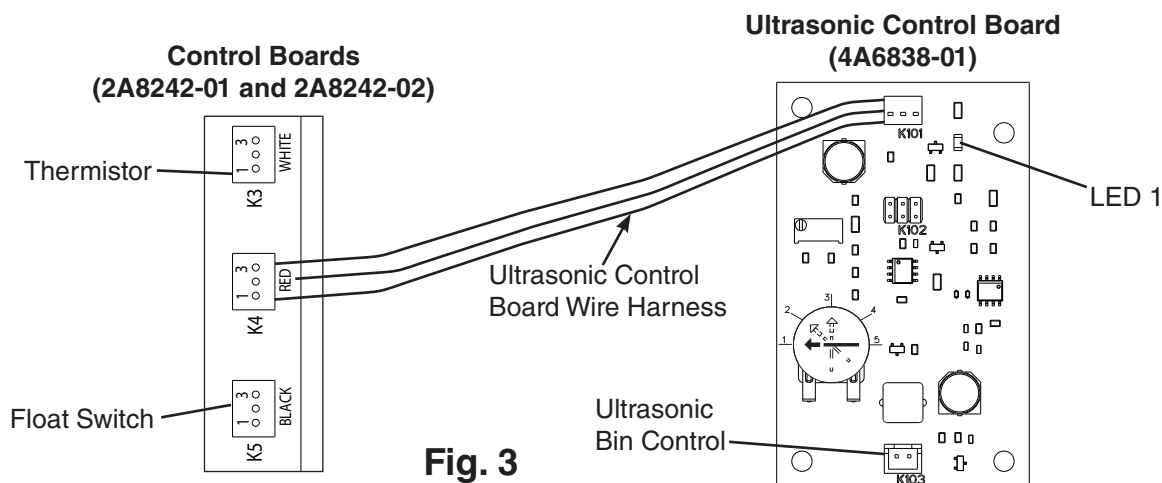

Fig. 3
- 5) Check CB control connectors K3, K4, K5, and K12 for correct VDC per table below. See Fig. 3 and 4.